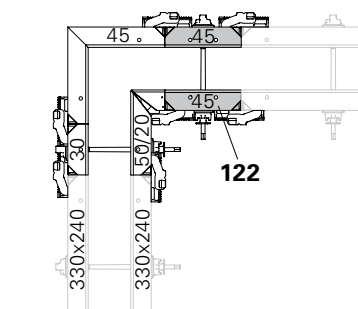

Fig. C1.08
MX 18, 330 x 45 (122). (Fig. C1.08)